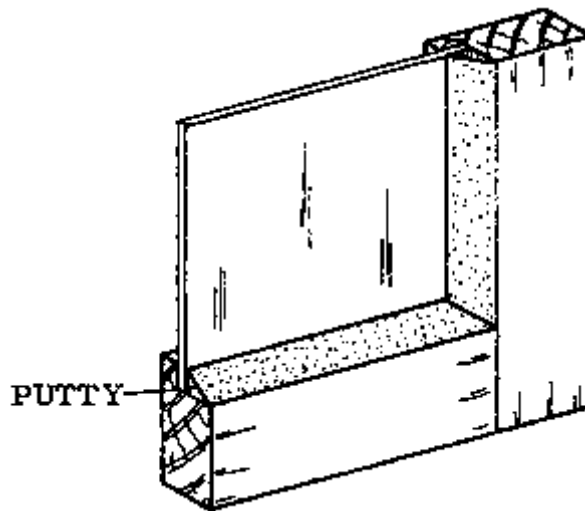

Fig. 1b
- By using putty, to make a waterproof seal (Fig. 1b)